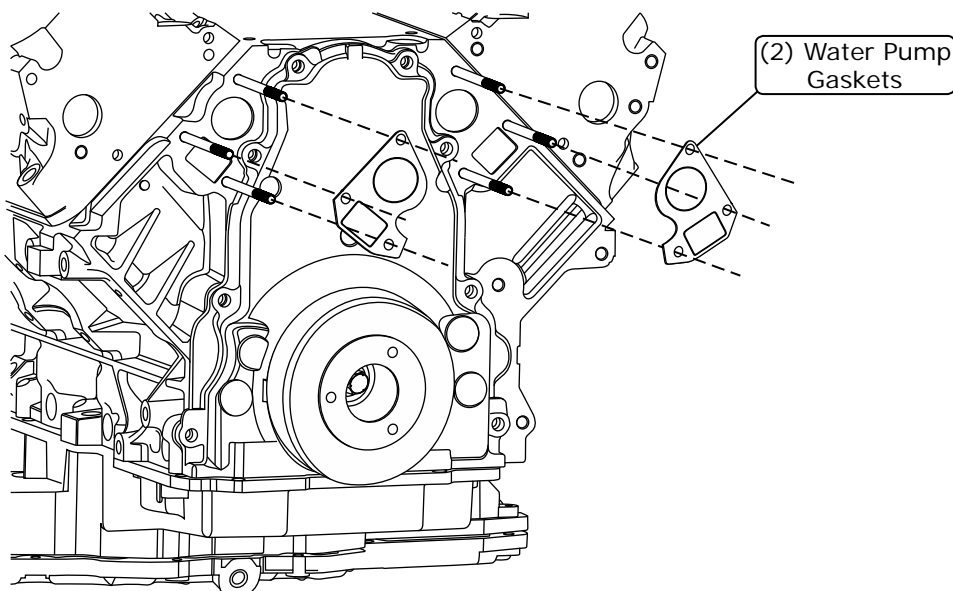

Figure 2
3. Install the water pump gaskets over the studs as shown in Figure 2, Page 7. **NOTE: The 8mm-1.25 x 130mm studs should protrude approximately 4.28" from the face of the block.**